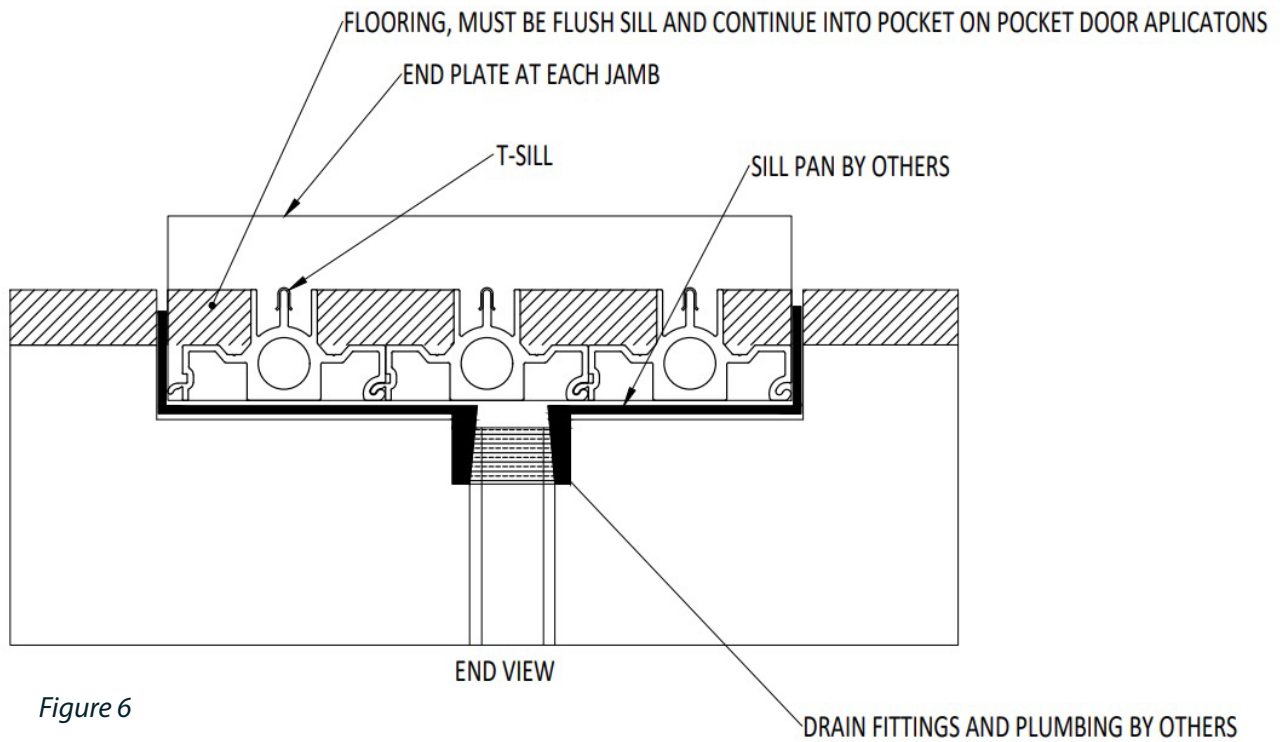
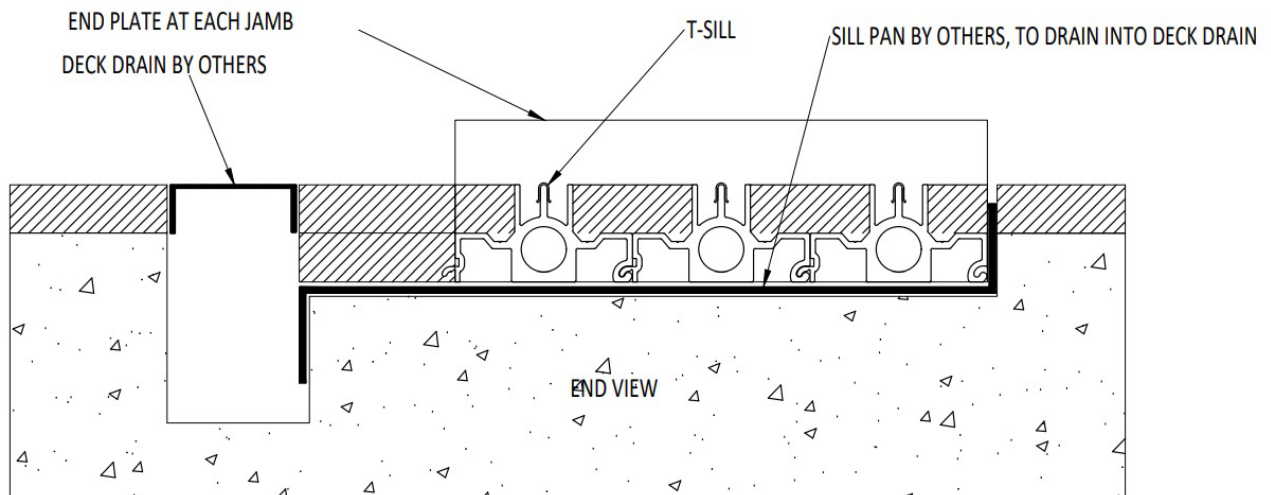

Figure 6
Figure 7
- Front Weep with pan and drain by others (See Figure 6).
- Front weep with deck drain and pan by others (See Figure 7).
8. **Front Weep Sills** - Sills that have a weep slot located on the bottom surface 6" from each end and 6" from each stagger location will allow water to drain out the bottom of the sill directly into a water management system supplied by others, such as a sill pan or equivalent. (See Figure 6). If a slot drain or similar system is used, the door sill pan can be drained into the slot drain. Ensure that the slot drain bottom is adequately below the sill pan to ensure water only flow away from the sill. (See Figure 7). Skip to step 10.